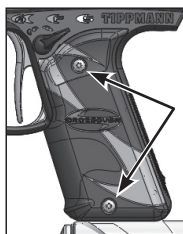
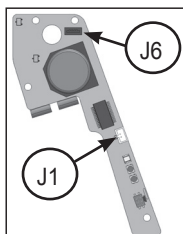

Figure 12: Grip Cover Screws
Figure 13: Wire Harnesses Connectors
3. To remove the **Electronics Circuit Board (44)**, use a 5/64" Allen wrench to remove two screws (61) from both sides of the Grip Covers (left side screws shown in Figure 12).
- a. Remove the entire Grip Cover Assembly (60) from the Grip.
- c. Remove three screws (45) from the Electronics circuit board.
- e. Remove the **Flex Circuit** (43) from connector J6 (see Figure 13) on the circuit board by pulling straight out from the connector.
- f. Remove the **Solenoid wire harness** (40) from connector J1 on the circuit board by pulling straight out from the connector.